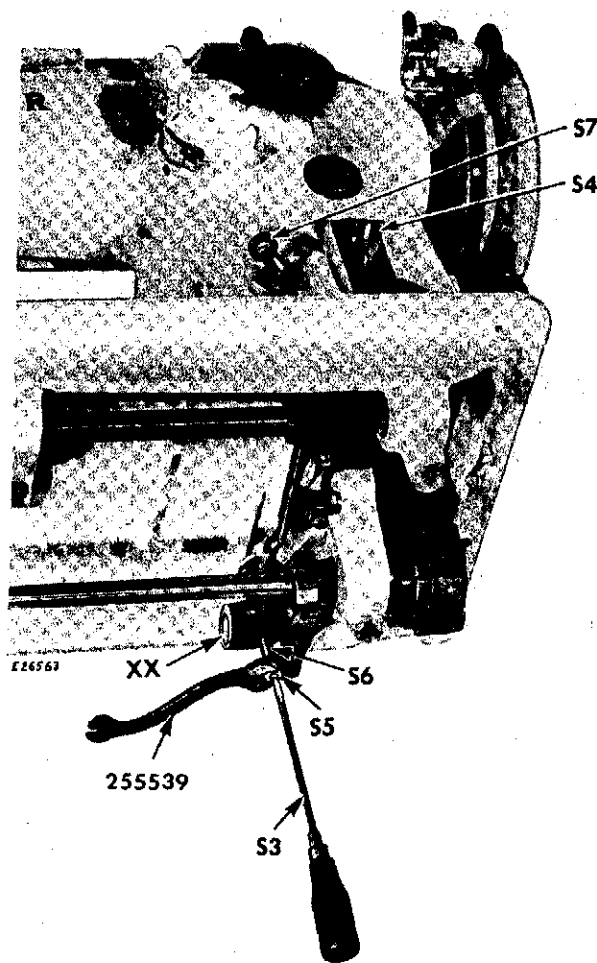

Fig. 241
1. Turn out feed regulator stop screw **S7**, Fig. 241 to permit maximum up and down movement of stitch regulator.